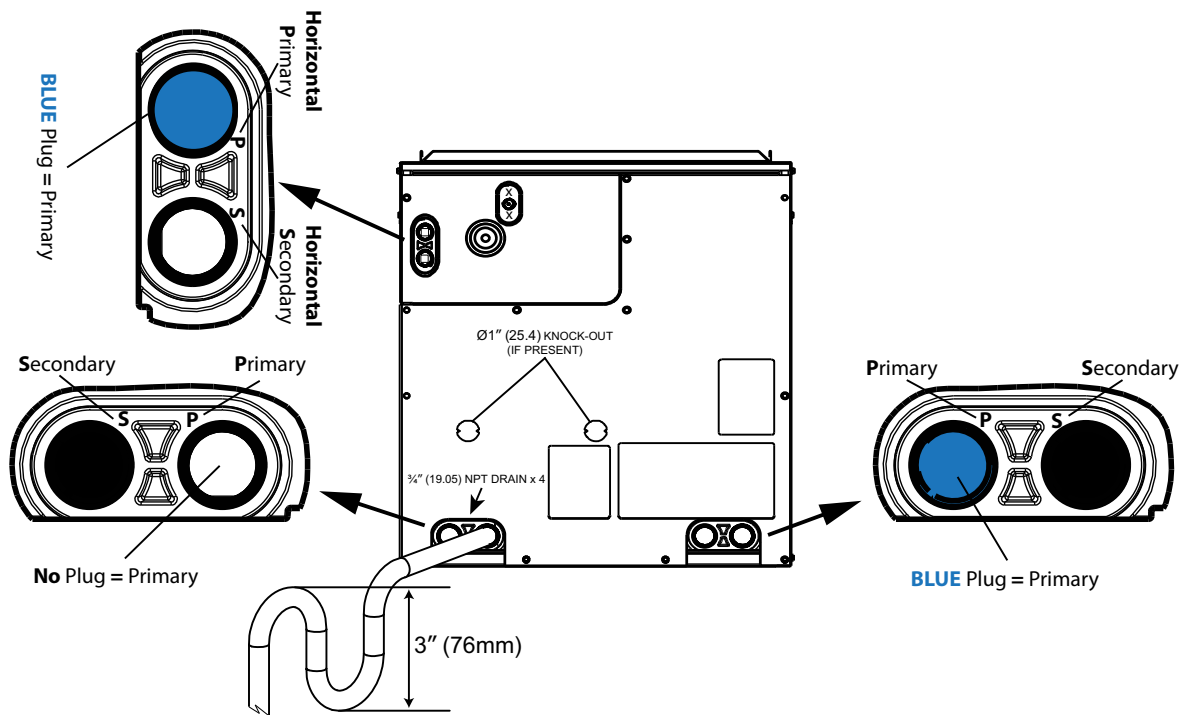

Fig. 15 – Condensate Trap and Drains
IMPORTANT: Depending on the date of manufacture, the unit's primary and secondary drains may be reversed from what you are accustomed to. Please check carefully before connecting the drain. Refer to Fig. 15.
- Make trap at least 3 inches (76 mm) deep and no higher than the bottom of unit condensate drain opening (Fig. 15).